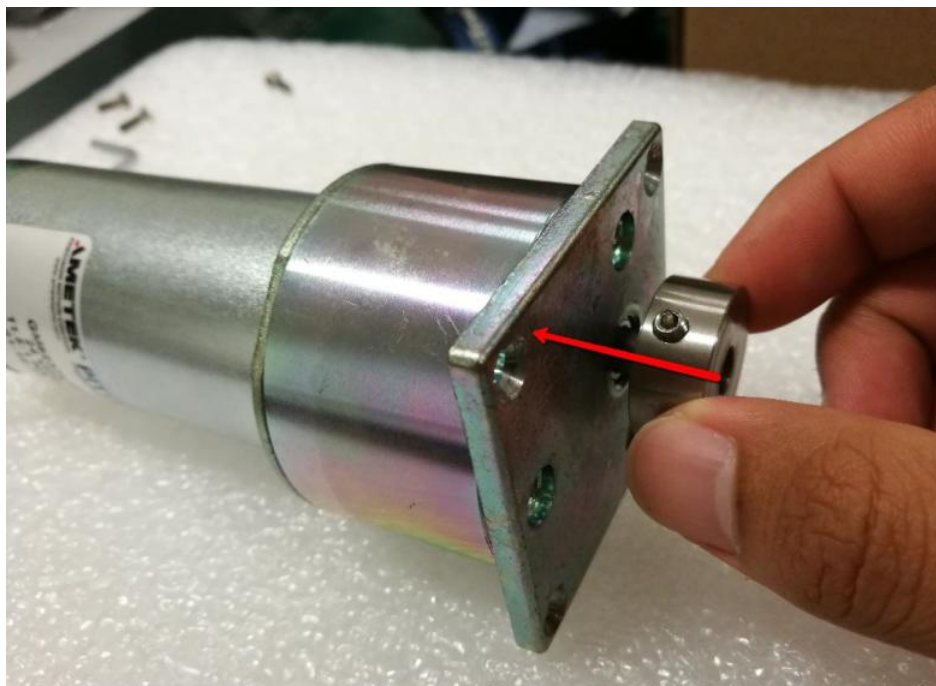

Figure 7 Belt Pulley Assembly
2. Assemble Belt pulley to Conveyor motor as shown in Figure 7.